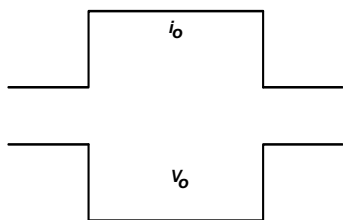
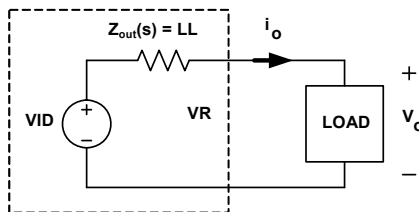

FIGURE 25. DESIRED LOAD TRANSIENT RESPONSE WAVEFORMS
FIGURE 31. VOLTAGE REGULATOR EQUIVALENT CIRCUIT
Assuming the compensator design is correct, Figure 25 shows the expected load transient response waveforms if  $C_n$  is correctly selected. When the load current  $I_{core}$  has a square change, the output voltage  $V_{core}$  also has a square response.
Figure 25 on page 29 shows the desired load transient response waveforms. Figure 31 shows the equivalent circuit of a voltage regulator (VR) with the droop function. A VR is equivalent to a voltage source (= VID) and output impedance  $Z_{\text{out}}(s)$ . If  $Z_{\text{out}}(s)$  is equal to the load line slope LL, i.e., a constant output impedance, then in the entire frequency range,  $V_o$  will have a square response when  $I_o$  has a square change.